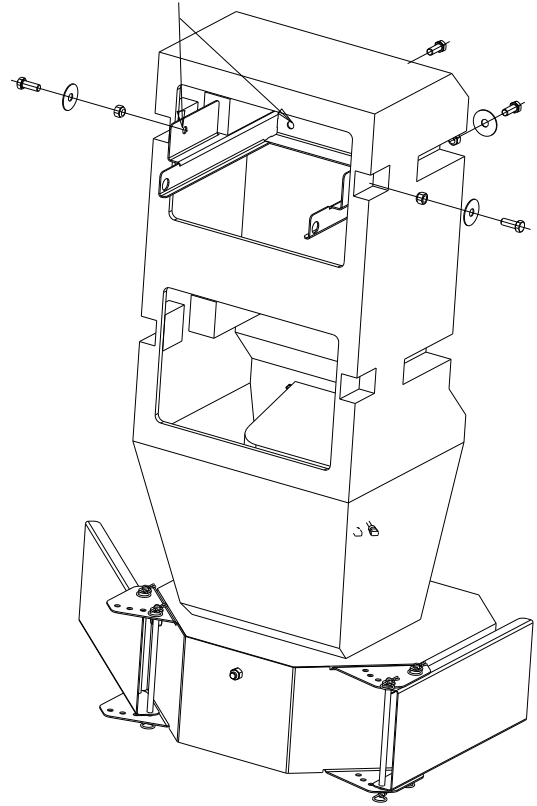

Fig. 4
- H.** Detent spring latches located on chute slides. Slide chute guide into chute slides and secure chute in position by releasing spring latches Fig. 4